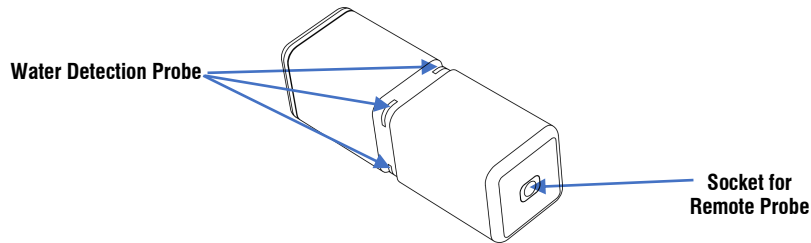

Figure 9A
- Water Leak Alarms refer to two Water Detection Probes “Built-in & Remote Figure 9A”